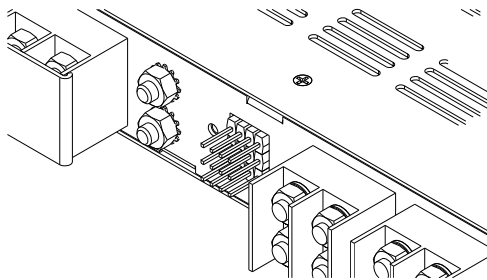

Figure 1.2.1
1.2. Wiring for the panel is accessible on the rear of the panel. Power is connected via the stud input and output blocks. Alarms are connected via wire-wrap to the connectors on the rear of the panel. Figure 1.2.1 shows the connectors available on the rear of the panel.